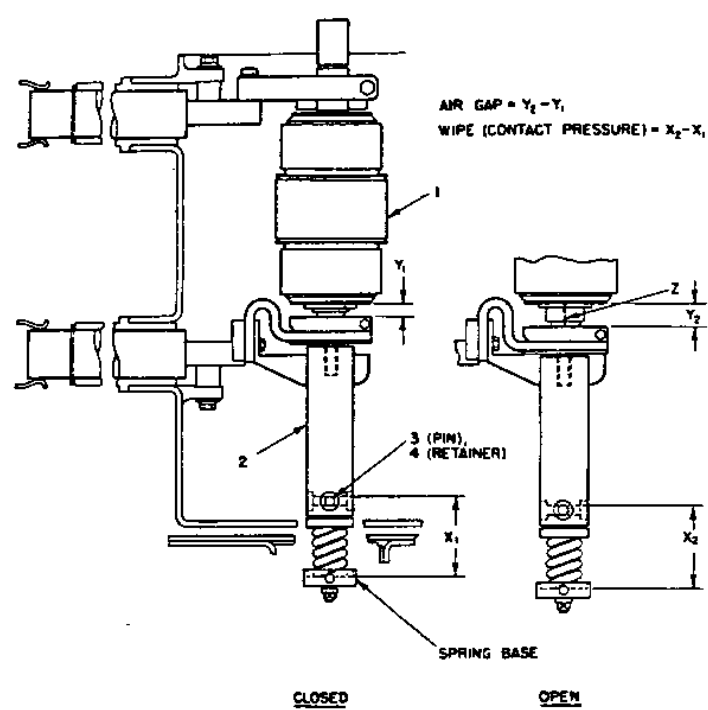

Fig. 5 — Contact Pressure
3. Contact wipe (contact pressure) (See Fig. 5). The contact air gap and contact wipe is set at the factory by setting the vertical position of the interrupter (1) and the vertical position of the pushrod (2). These parts should not be repositioned in the field unless a pushrod change is required to correct contact sequence as described elsewhere. Contact wipe is set at the factory at .11 minimum. Contact erosion and wear in mechanical parts will cause a reduction in contact wipe over the life of the breaker and a check should be made to insure that the wipe is not less than .020". The measurement is made as follows for the three poles:
4. Contact Air Gap (See Fig. 5). The contact air gap is set at the factory at the nominal dimension of .43. This value will normally increase as the contacts erode. A check of the contact air gap checks that the breaker does open fully and that the gap is sufficient to withstand the applied voltage. The measurement is made as follows for the three poles.
5. Contact sequence (See Fig. 5). All three poles should